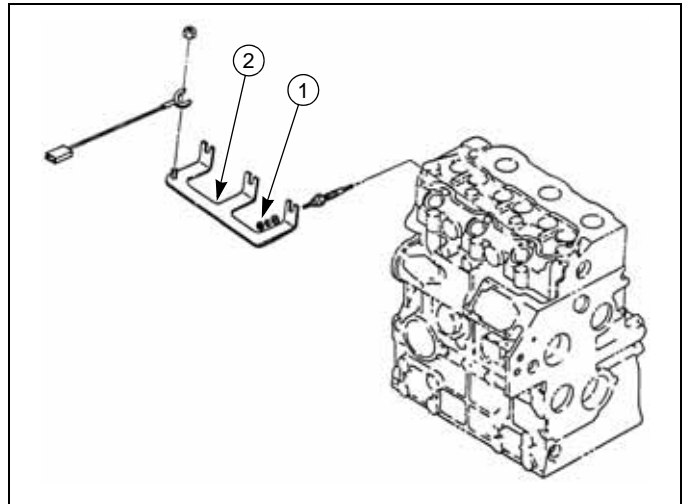

Fig. 5-6
2. Remove the three (3) nuts, ① (page 5-3, Fig. 5-6), and washers securing the electrode bar, ② (page 5-3, Fig. 5-6), from the glow plugs.